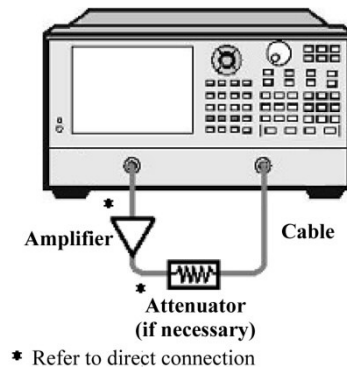

Figure 8.19 AM-PM transformation measurement connection
- 5) Connect the amplifier and provide DC bias as shown in Figure 8.19.